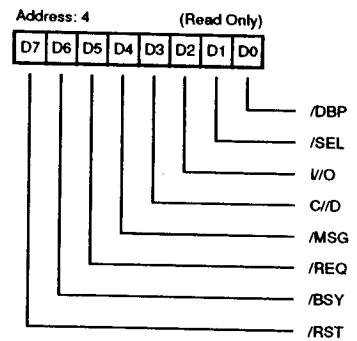

Figure 12. Current SCSI Bus Status Register
**Current SCSI Bus Status Register. Address 4 (Read Only).** The Current SCSI Bus Register is a read-only register which is used to monitor seven SCSI Bus control signals, plus the Data Bus parity bit. For example, an Initiator device can use this register to determine the current bus phase and to poll /REQ for pending data transfers. This register may also be used to determine why a particular interrupt occurred. Figure 12 describes the Current SCSI Bus Status Register.
When an interrupt occurs, the Bus and Status Register and the Current SCSI Bus Status Register (Figures 12 and 14) must be read to determine which condition created the interrupt. IRQ can be reset simply by reading the Reset Parity/Interrupt Register or by an external chip reset /RESET active for 100 ns.